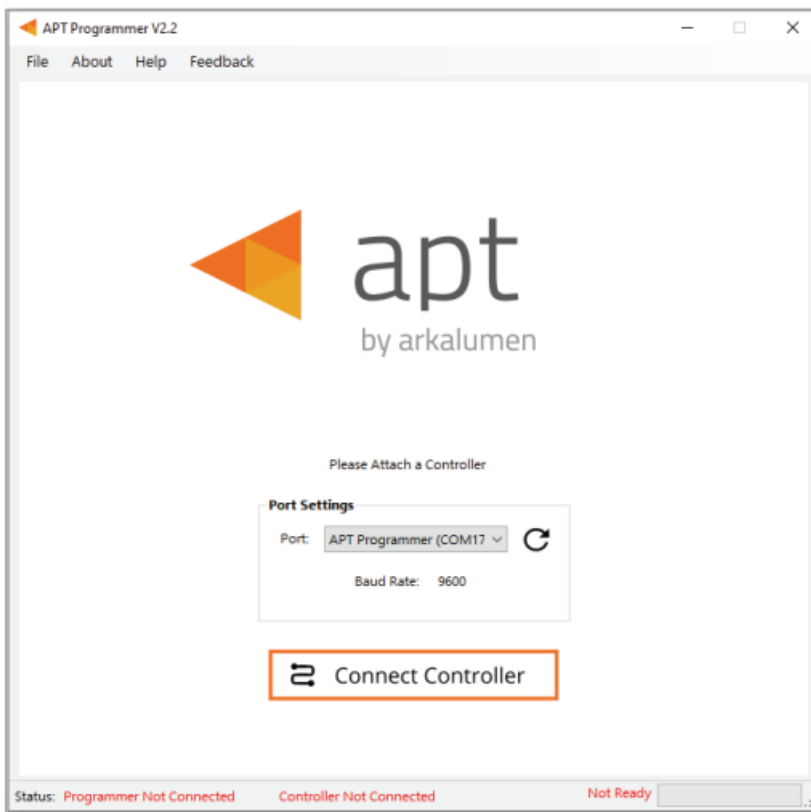

Figure 2: Programmer Connect window
1. Launch the APT Programmer Interface software by selecting the application, **APT Programmer Interface**, from the Start Menu. The Programmer Connect window (shown in Figure 2) will open.